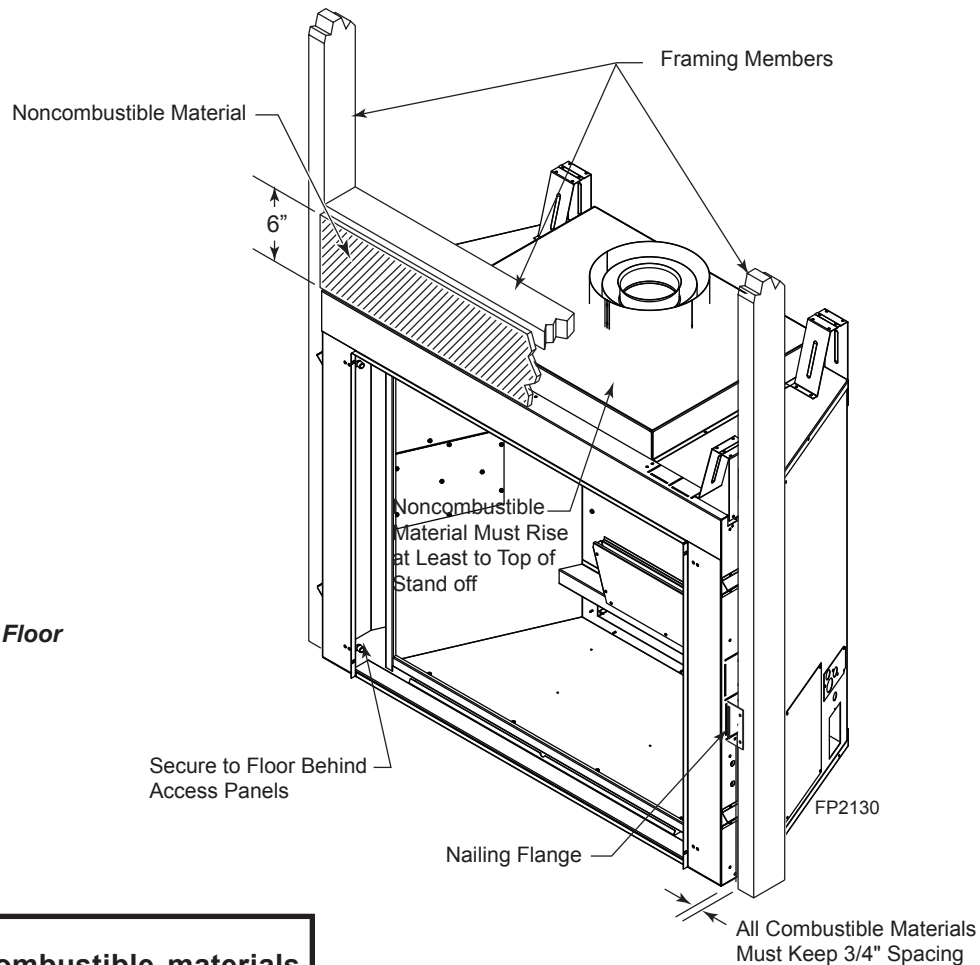

**Figure 6 -
The fireplace must be secured to the floor and/or to framing studs as shown in *Figure 6*. Use two (2) wood screws or masonry/ concrete screws to secure fireplace to the floor. Use four (4) screws to attach fireplace to framing. The side nailing flanges are 1/2" or 5/8" to accommodate different wall thickness.